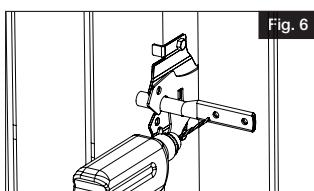

Fig. 6
- a. Drill 7/32" pilot holes on the gate for striker location (Fig. 6).